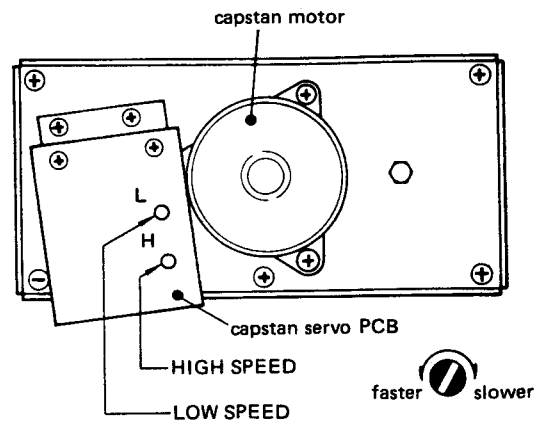

Fig. 2-17 FWD/REV play speed adjustment points
3. Play the tape. Adjust HIGH SPEED control (see Fig. 2-17) for a reading of  $3,000\text{Hz} \pm 5\text{Hz}$ .
1. 調整箇所 図2-17参照